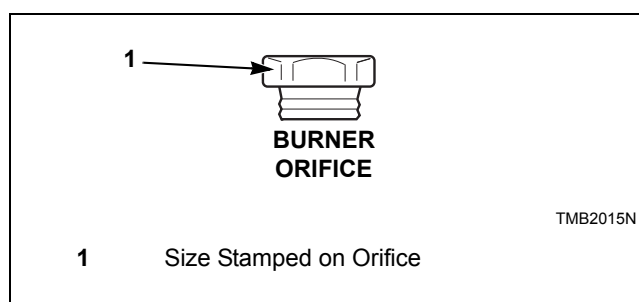

Figure 9
3. Install the new, correct burner orifice(s). Refer to *Figure 9* and *Table 2*. Torque each to 9 - 10 Nm.
4. Reinstall spud holder assembly to gas valve, making certain burner orifice(s) are in line with burner tube opening. Refer to *Figure 9*.